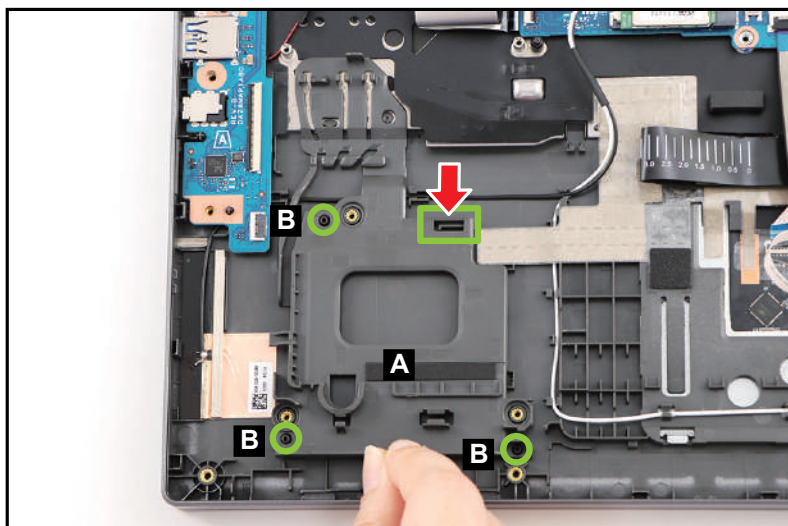

Figure 3-157. Replacing the Smart Card Holder
1. By aligning with the guide tab (highlighted by the green box), install the smart card holder (A) onto its compartment on the top assembly. Then push the smart card holder forward until it is fully seated and secured to the guide pins (B) (Figure 3-157).